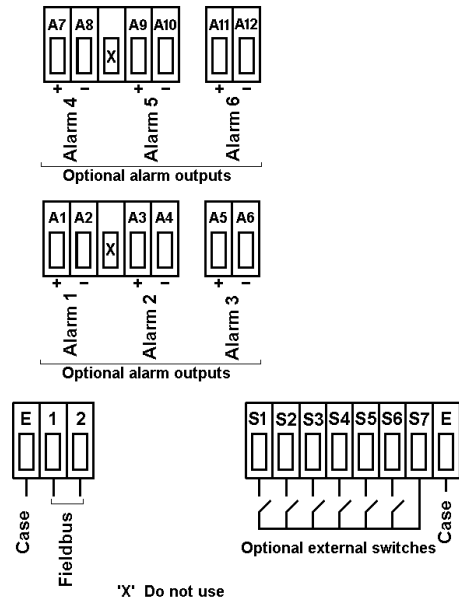

Fig 6 Installation and terminal connections
- c. Connect the panel wiring to the rear terminal block(s) as shown in Fig 6. To simplify installation, the terminals are removable so that panel wiring can be completed before the instrument is installed.